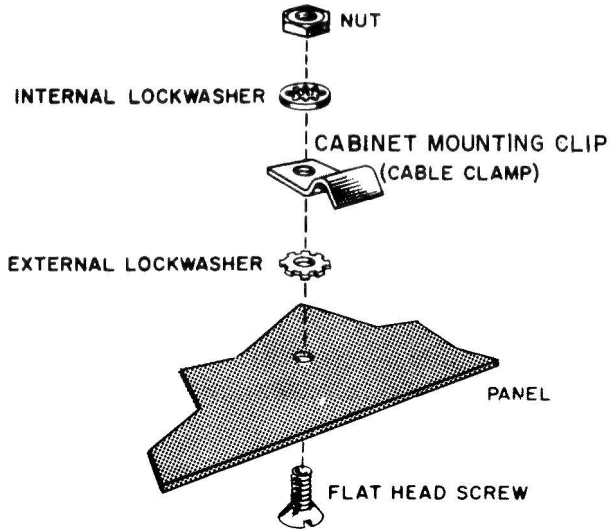

FIGURE 2. HOW TO ASSEMBLE THE CABINET CLAMP
- () Insert the short flat head screw through the hole in the top center of the panel. Place an external lockwasher over the screw. Next put one of the cable clamps over the screw. Now, put on an internal lockwasher and tighten a nut over it very securely. See Figure 2.